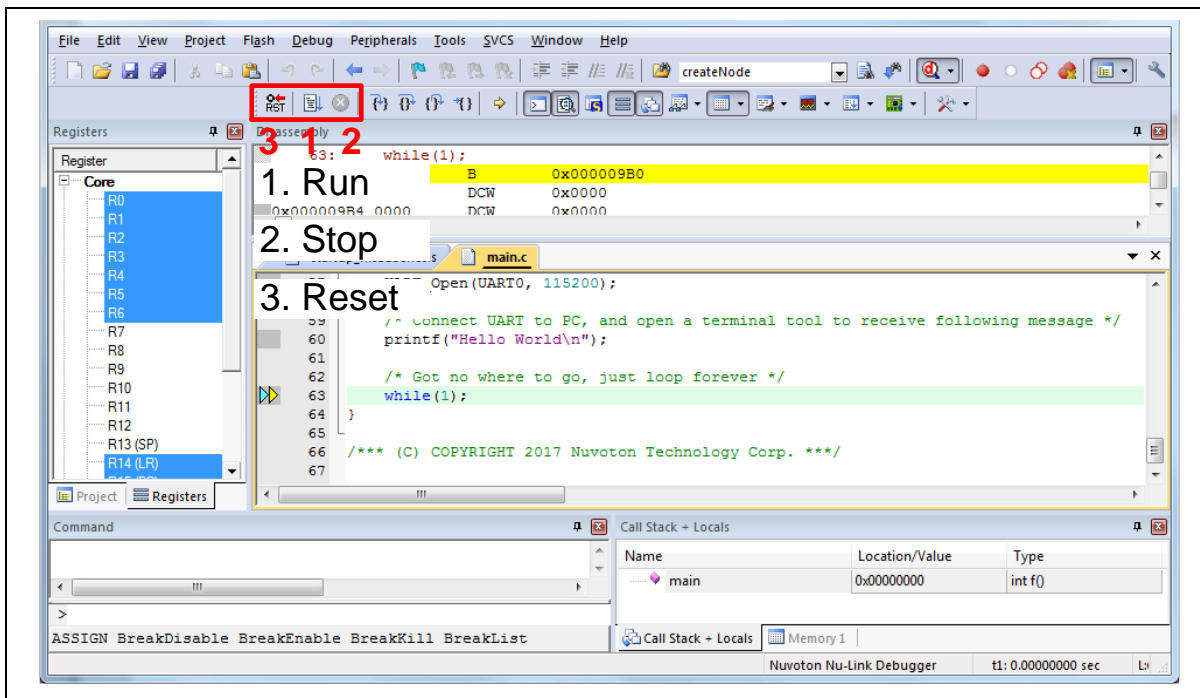
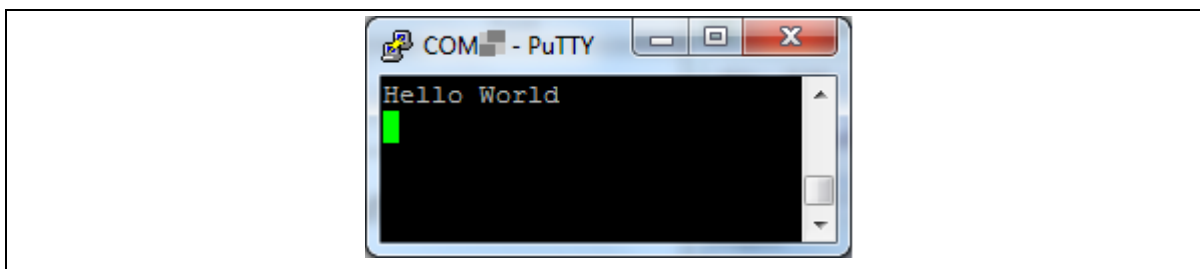

Figure 4-13 Keil MDK Debug Mode
Figure 4-14 Debug Message on Serial Port Terminal Windows
4. Figure 4-13 shows the debug mode under Keil MDK. Click “Run” and the debug message will be printed out as shown in Figure 4-14. User can debug the project under debug mode by checking source code, assembly language, peripherals’ registers, and setting breakpoint, step run, value monitor, etc.